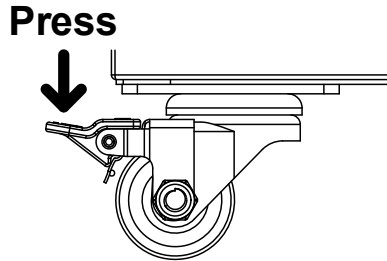

Figure 3-7 Press the fixed position
- (1) Ensure the supporting structure is in good condition and the mounting floor is smooth and strong.
- (2) Adjust the cabinet to the right position by the supporting wheels.
- (3) Press the fixed position of the brake assembly as shown in Figure 3-7.